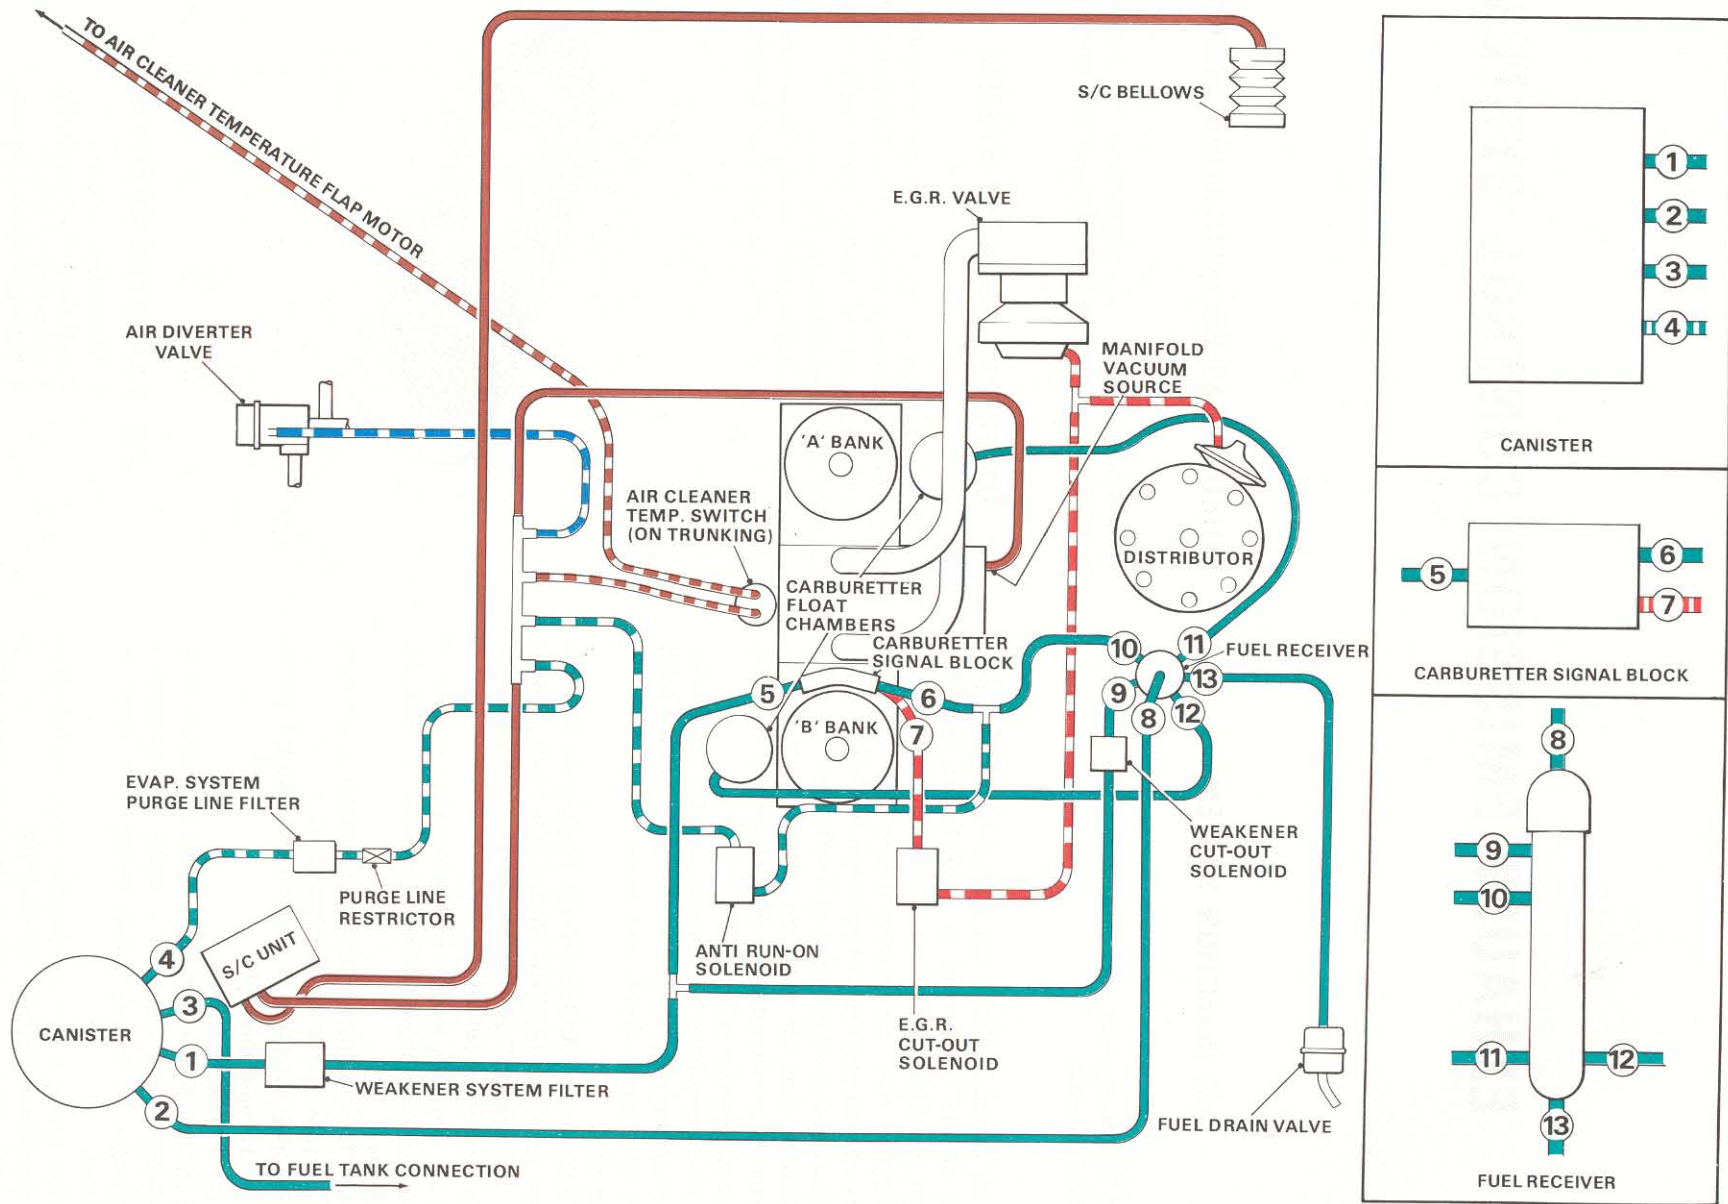

FIG. 4 HOSE ROUTING DIAGRAM
As 1975 Specification—see Supplement No. 5 except for Figure 4 which provides additional information.
3. If the flow is less than 1,41 cu. m/hr. (50 cu. ft/hr.) stop the engine and remove the purge line restrictor (see Fig. 4). Fit a piece of straight metal pipe with an internal bore larger than 4,76 mm. (0.187 in.), in place of the restrictor.
- (i) an air leak in any of the vacuum hoses connected to the vacuum manifold (see Fig. 4).
- (ii) a blockage in the vacuum manifold or any of the connecting hoses (see Fig. 4).